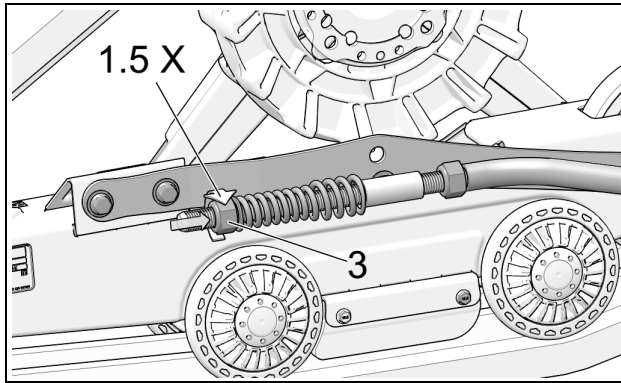

Figure 11
- Turn nut (3) until it comes in contact with spring, then compress spring by turning nut 1 1/2 turn. See Figure 11.